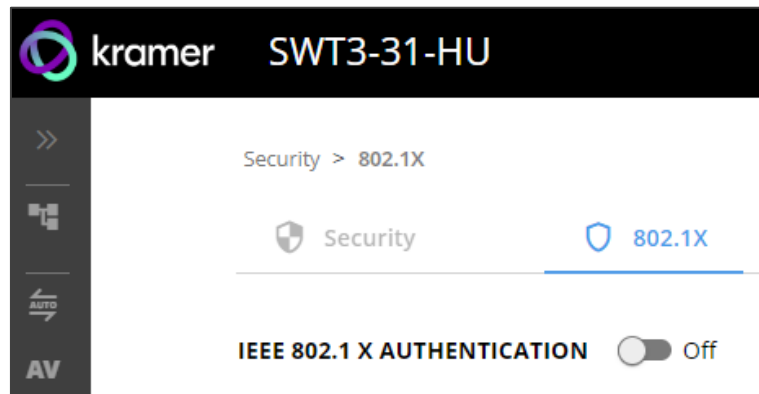

Figure 41: 802.1X Tab
2. Select **802.1X** tab. The 802.1X settings tab appears (see Figure 41).